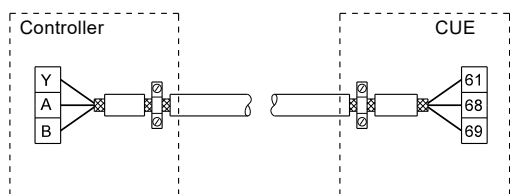
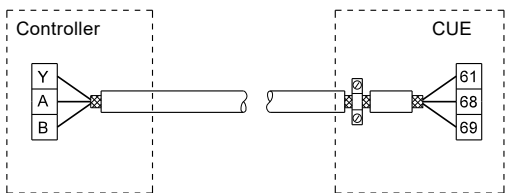

Fig. 155 Example of connection of a 3-conductor bus cable with screen connected at both ends
Fig. 156 Example of connection of a 3-conductor bus cable with screen connected to CUE (controller with no cable clamps)
- Connect the screen to frame at both ends for both motor and signal cables. See fig. 155. If the controller has no cable clamps, connect only the screen to the CUE cabinet. See fig. 156.